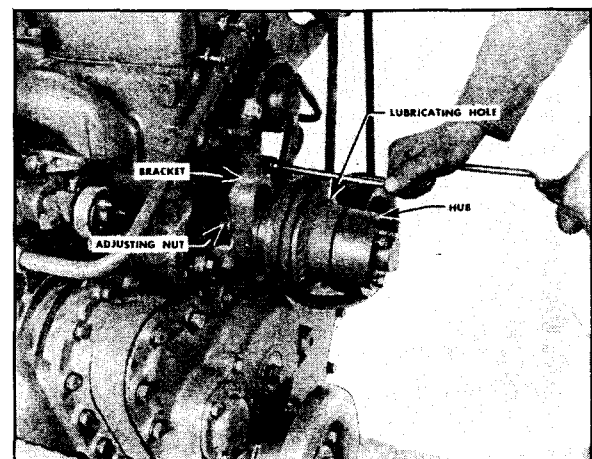
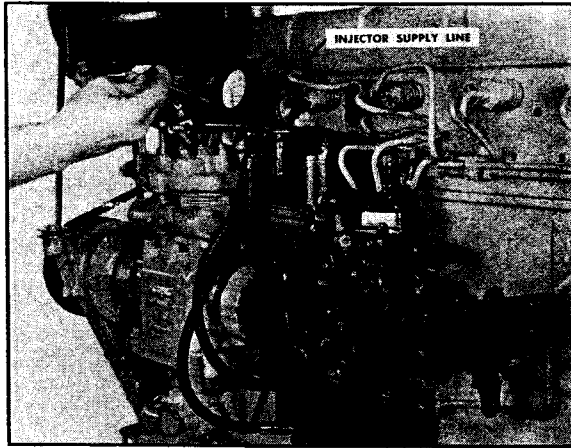

Fig. 12-99. Installing fan bracket and hub
Fig. 12-102. Priming discharge disc
7. Crank or bar the engine in operating direction until a "PR" mark on the fan drive pulley is indexed with the timing mark on the gear case cover. See Fig. 12-99. Use the compression release for ease in turning. Work the priming pump until fuel comes out of the indexed line, then tighten this line to the injector and give two more strokes of the priming pump. Over priming is not necessary or desirable. Proceed in this manner until all six lines and injectors have been primed. Refer to Fig. 12-102.